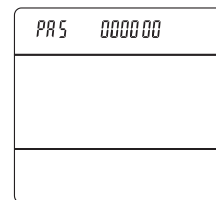

Figure 6-6 Password menu
(2) Password interface (Figure 6-6):
In the password menu, the flow measurement will not be interrupted, whereas the first line of the LCD display will show the password menu as Figure 6-6: